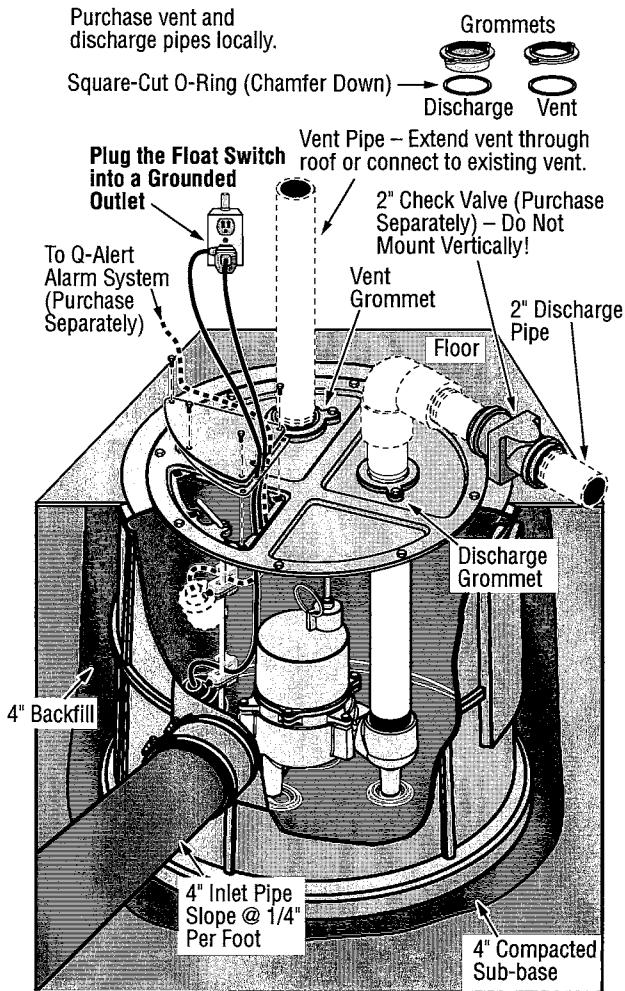

Figure 1 – Typical Installation
Installation Instructions. See Figure 1.
1. Dig the hole for the sewage basin and the sub-base. The hole must be deep enough so the finished floor is flush with the top of the basin. Refer to Figure 1, Page 3.
9. Install the 2" check valve in the horizontal portion of the discharge pipe. See Figure 1. Make certain the flow indicating arrow points away from the pump. This check valve will keep the water from running back into the basin when the pump is not running.